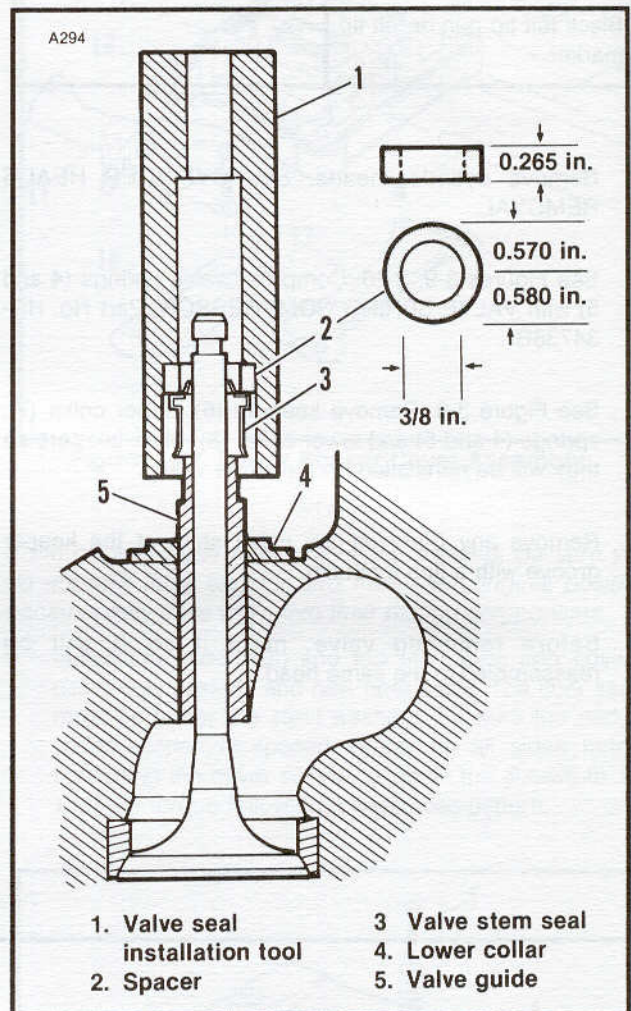

Figure 3-21. Valve Seal Installation With Spacer
6. Install lower collar (4).
7. See Figure 3-21. Apply a small amount of RC 620 Loctite (green) retaining compound to outside diameter of guide near the top of guide. Place a protective sleeve over the valve stem keeper grooves. Coat the sleeve with oil and place a new seal over the valve stem.